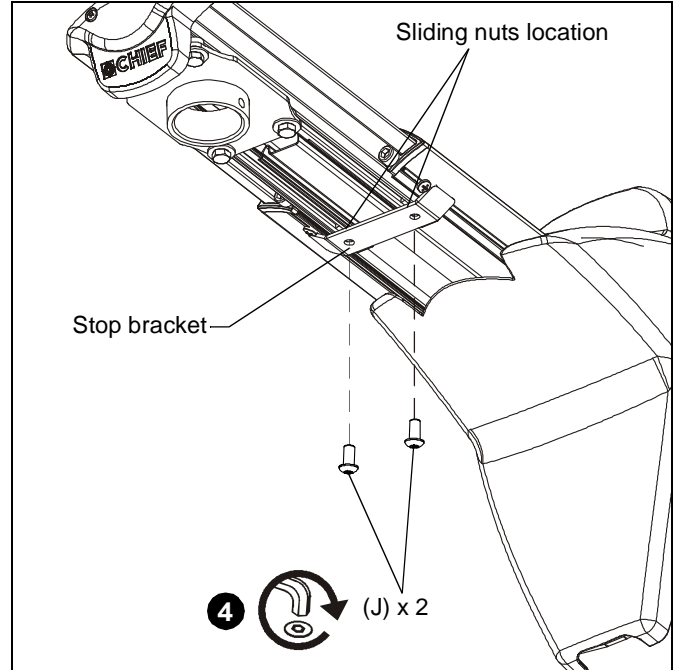

Figure 24
4. Install two 1/4-20 x 1/2" button head security screws (J) through holes in stop bracket and into holes in sliding nuts. (See Figure 24)